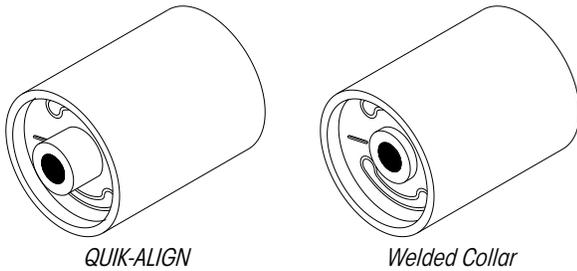
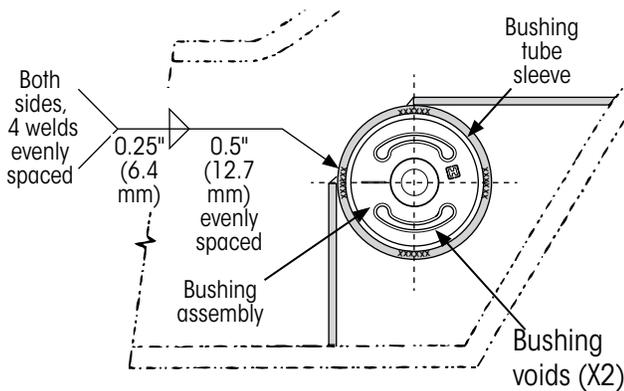

Figure 52: Y-beam bushing assemblies
Figure 53: Inserting HT Y-beam bushing assembly
The bushing assembly should be held in position by four half-inch welds (Figure 53 on page 24) on each end. To remove the bushing assembly:
This procedure is the same for both QUIK-ALIGN® and welded collar bushing assemblies (Figure 52).
1. **Insert** the new bushing assembly (Figure 52) into the bushing tube sleeve (Figure 53).
2. **Rotate** bushing assemblies so bushing voids are positioned vertically as shown in Figure 53.
5. **Weld** the bushing assembly to the bushing tube sleeve, (Figure 53), with four half-inch (12.7 mm) welds. Refer to Hendrickson literature number L64 Welding Procedures for weld parameters.